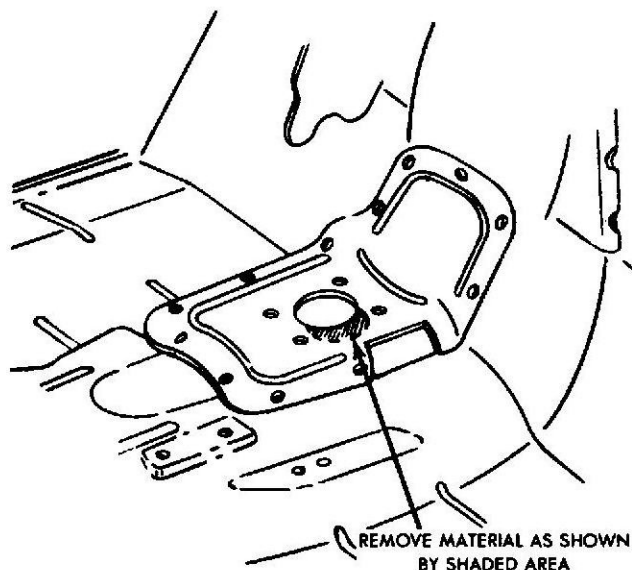

Fig. 1
- (1) Using large screwdriver, disengage shift lever boot retainers from floorpan.
- (2) Slide boot up shift lever.
- (3) Check tower and floorpan for actual contact or for signs of contact such as chipped paint or shiny metal.
- (4) If contact between floorpan and tower is not evident proceed with diagnostic procedures to isolate cause of noise. If contact is evident proceed to step (5).
- (5) Remove a piece of floorpan large enough to provide a one inch (1") clearance between floorpan and tower. Cutting operations may be done using an air chisel or by drilling a series of closely spaced holes and cutting with a sharp cold chisel (Fig. 1).
- (6) Slide shift lever boot down into position and secure to floorpan with retainers.